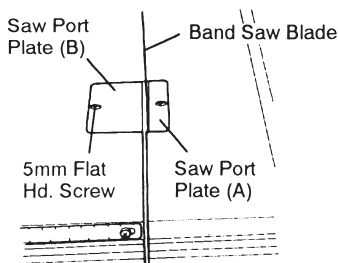

Fig. 19
(a) Loosen the two 5mm flat hd. screws which fasten the saw port plates, and remove the saw port plates (A) and (B). (See Fig. 19)